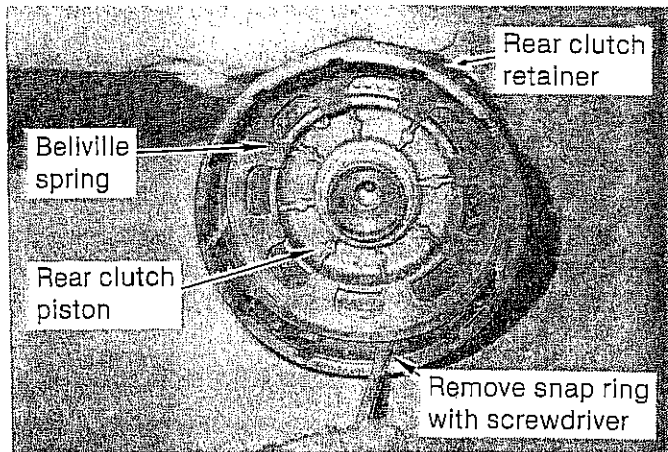

FIGURE 26
**STEP 2.** Remove the snap ring holding the dished piston return spring in place. (See Fig. 26) Some models have a single 0.106 in. thick snap ring. Other models have a wavy snap ring and a steel or plastic spacer ring.